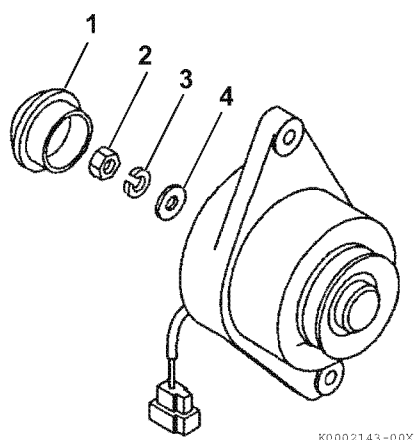

Figure 11-28
6. Install the flat washer (**Figure 11-28, (4)**), lock washer (**Figure 11-28, (3)**) and nut (**Figure 11-28, (2)**). Tighten the nut to the specified torque.
7. Install the rear cap (**Figure 11-28, (1)**).